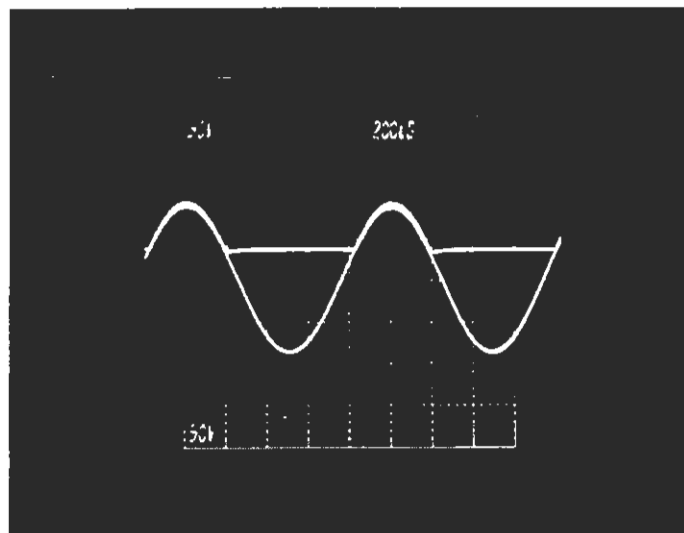

FIG 5
- Figure 5 +80V commutator @ full power @ 1 kHz into 8Ω .